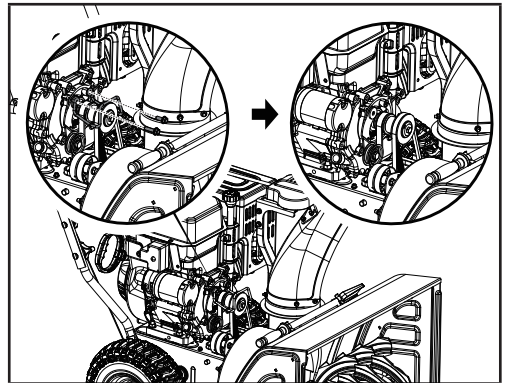

Figure 23
3. Remove the 2 bolts (20 mm/30 mm) holding the belt guard (Fig. 23). Note the spring is loose at this point.